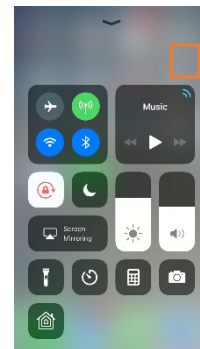

Figure 44
1. Open the Apple Control Center (Figure 44).